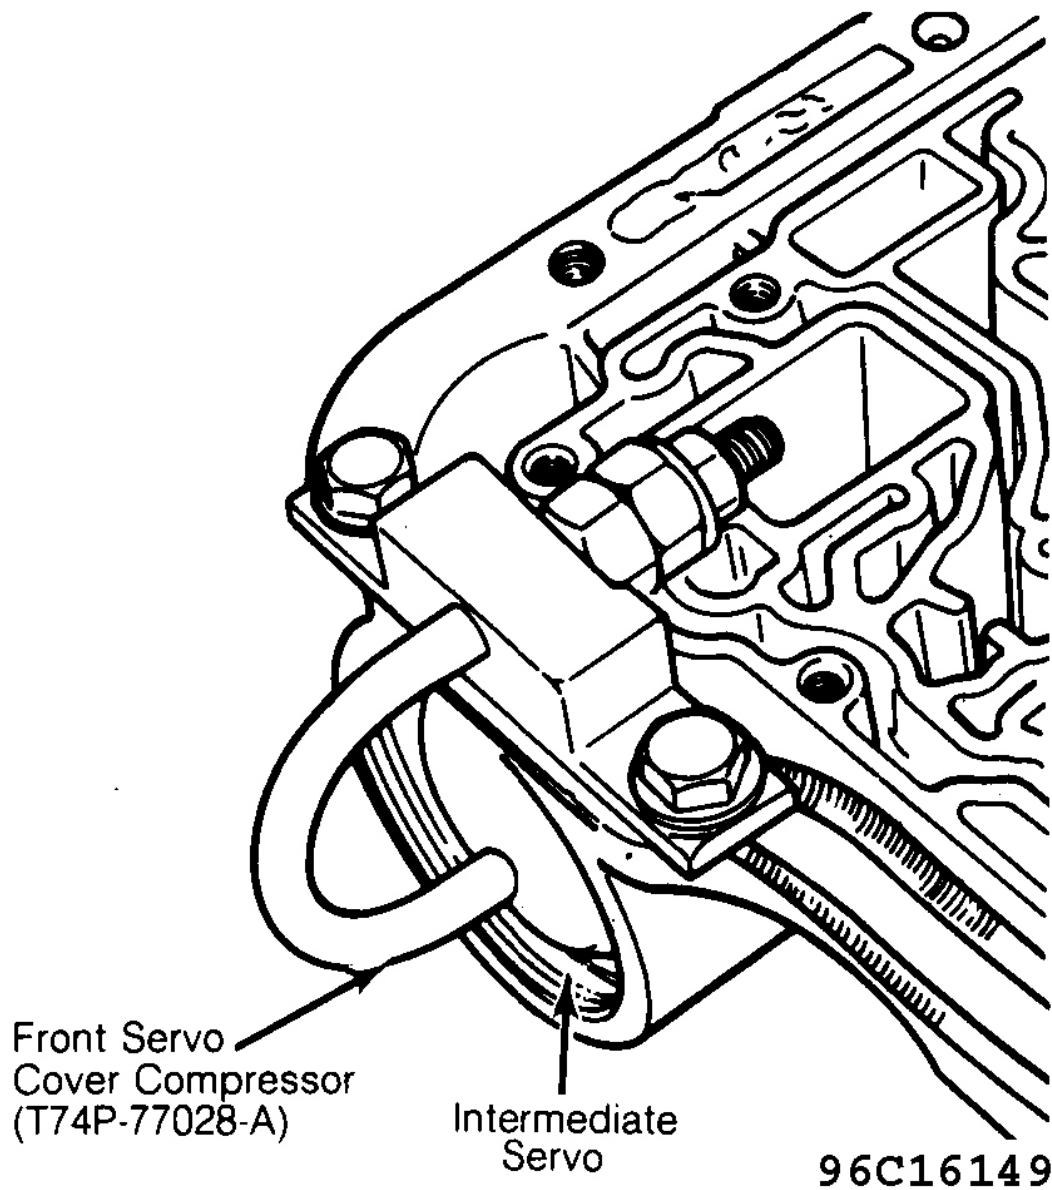

Fig. 18: Compressing Intermediate Servo
4. Using Front Servo Compressor (T74P-77028-A), compress intermediate servo. See **Fig. 18** . Remove intermediate servo retaining ring and snap ring. Remove piston, cover and return spring. Remove intermediate band apply lever retaining pin and apply lever. Remove parking pawl, retaining spring and pin from extension housing.